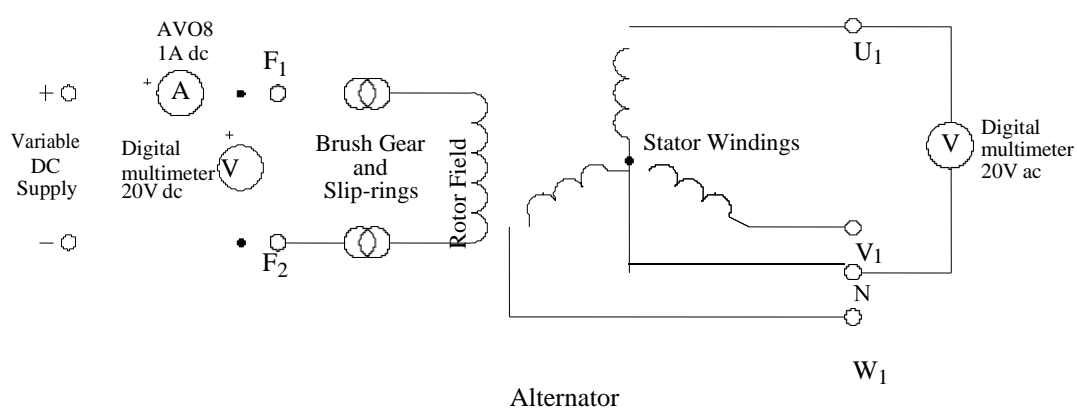

Figure 2
2. Connect the alternator as shown in figure 2.